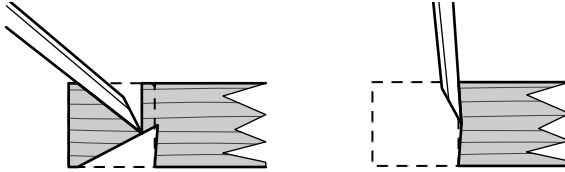

Figure 12: Chiselling out the waste.
4. Flip the board over and pare the remaining waste, as shown in **Figure 12**.